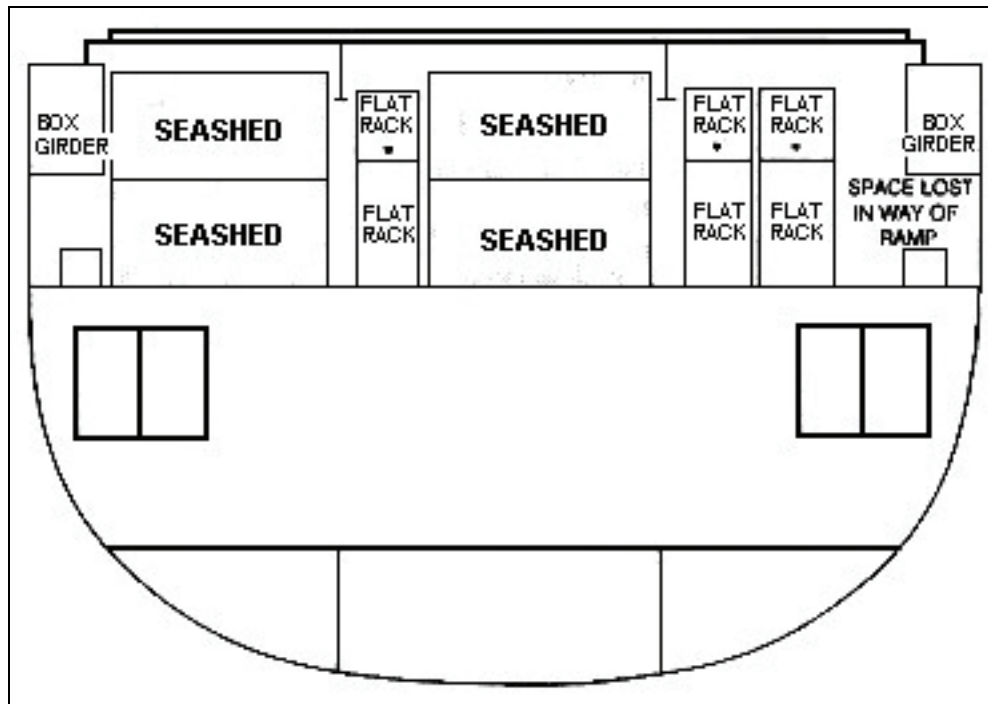

Figure 3-46. Loading the Lower Seashed
3. Lower the work through floor (see Figure 3-46).